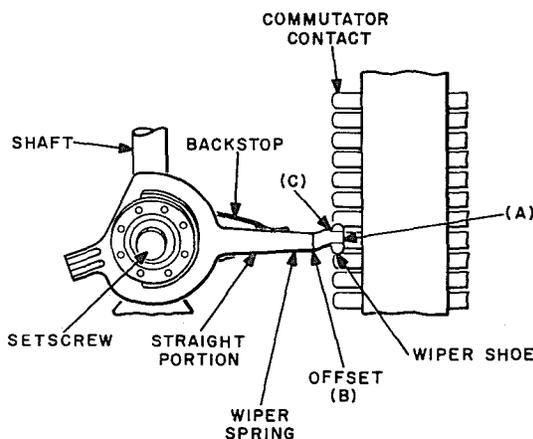

Fig. 5—Commutator Wiper and Associated Parts Bumping
Contacts: Fig. 5(A)—With the shaft in position to cut in on any level, the centerline of the wiper spring shall line up with the centerline of the commutator contact corresponding to that level within the limits of
2.15 Wiper Spring Tension: Fig. 5(B)—The tension of the wiper spring against the bottom commutator contact measured at the offset in the wiper spring between the straight portion and the tip shall be